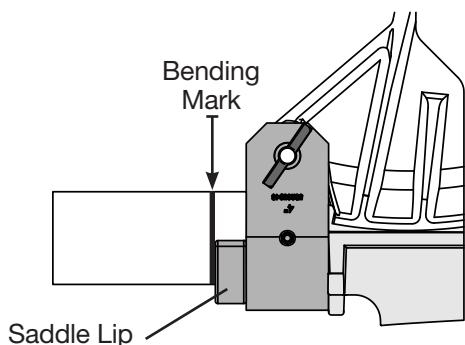

Figure 19
- Insert conduit between saddle and shoe. Line up the appropriate bending mark with the saddle lip and make sure the follow bar is touching the back of the saddle. (Fig.19)